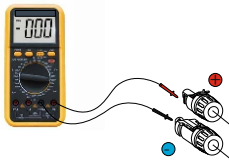
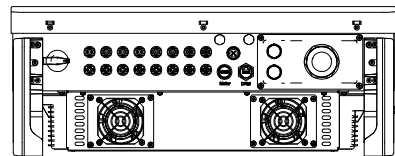

Figure 5.17 Multimeter measurement
Figure 5.18 Connect the DC connectors to the inverter
5. Measure PV voltage of DC input with a multimeter, verify the DC input cable polarity (see figure 5.17), and ensure that each string's PV voltage is in the operation range of the inverter. Connect the DC connector with the inverter until hearing a slight clicking sound, that indicates the connection succeeded (see figure 5.18).